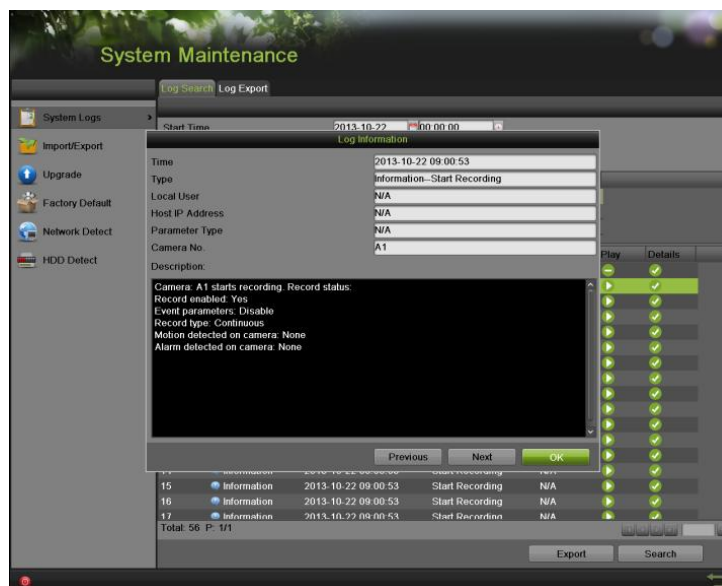

Figure 146 Log Information
6. Click  under the Detail item to view the detail information, as shown in Figure 146.